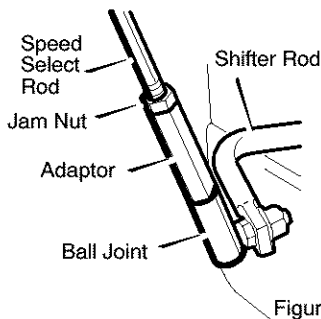

Figure 36
2. Loosen hex **jam nut** on **speed select rod**. Remove **ball joint** from **shifter bracket** (see Figure 36).
4. Turn the **adaptor** until the **ball joint** is aligned with the mounting hole in the **shifter rod** (see Figure 36). When aligned, attach the **ball joint** to the **shifter rod**.